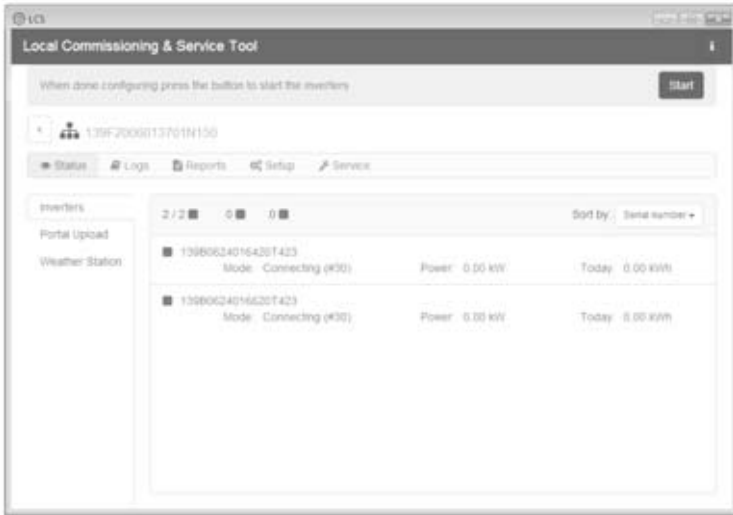

Figure 3.9 LCS tool - List of all inverters connected to the SMA Inverter Manager
9. A green square identifies the commissioned inverters. However, the inverters are not connected to grid before a "Start" command is issued from the bar below the top menu. See figure 3.9.